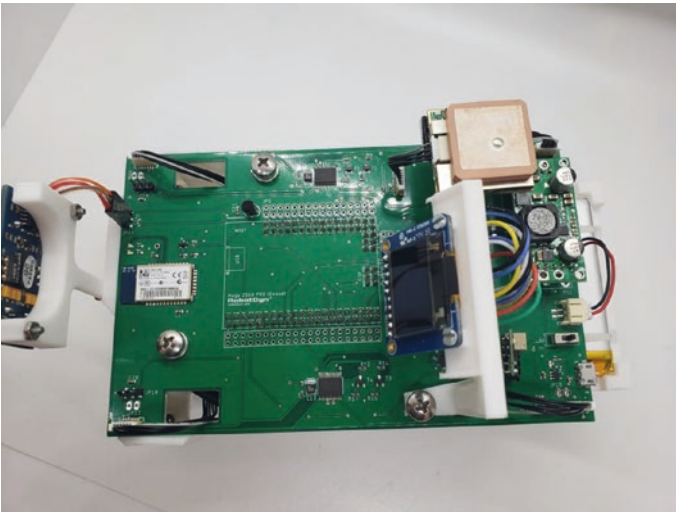

Figure 8-66. *Attach the JST cables to the motor headers on the PCB*
21. Connect all of the motor cables to the correct connector on the NatBot PCB. See Figure 8-66.